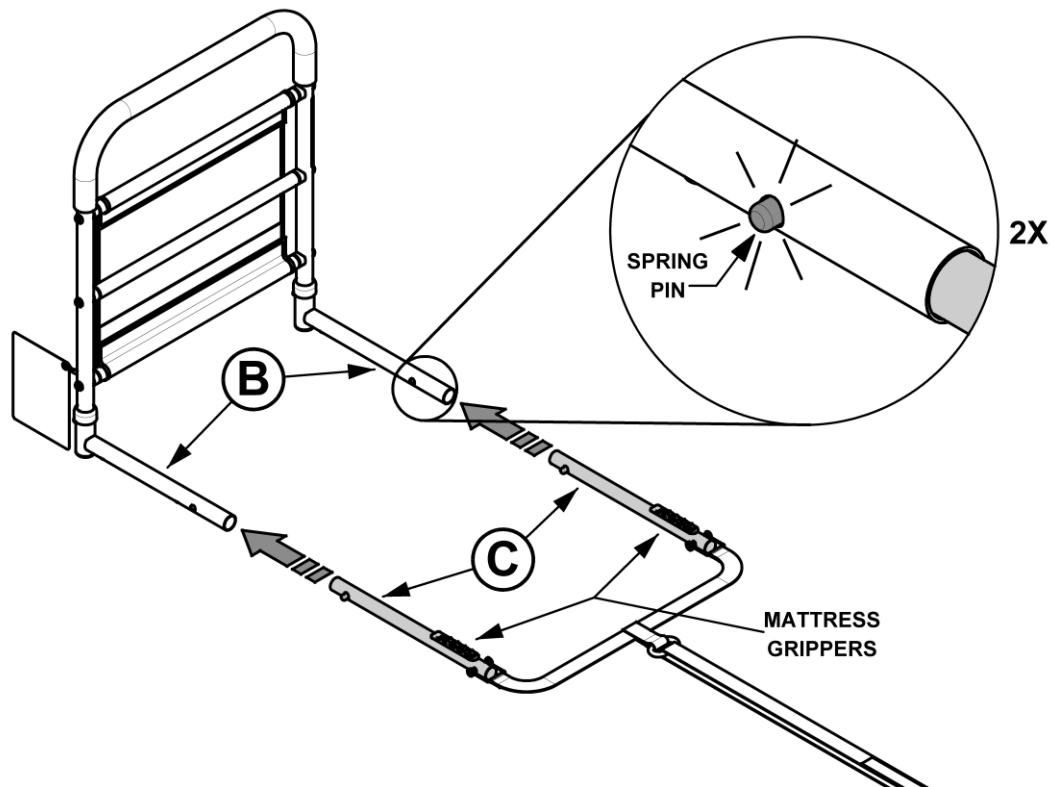

FIGURE 3
3. Insert Base Tubes **C** into Base Connectors **B** until Spring Pins engage. Ensure Mattress Grippers are facing up as shown in *FIGURE 3*.